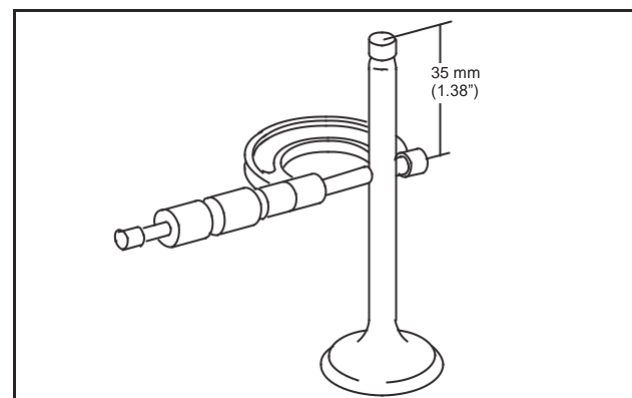

Fig. 22 – Measure Valve Stem Diameter
- Measure valve stem diameter at specified distance from end of valve, as shown in Fig. 22.